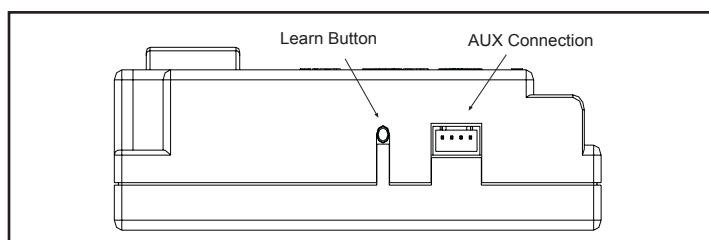

Figure 50 - Gas Module Left Side
1. There is a switch located on the right side of the module that reads REMOTE/OFF (Figure 50).
- To program the module (make sure the system has power), locate the learn button on left side as shown in Figure 50. Press and release the learn button. There will be a beep sound from the module. Then press any button on the remote transmitter. Once the module's internal receiver accepts the transmitter code, there will be a series of confirming beeps.